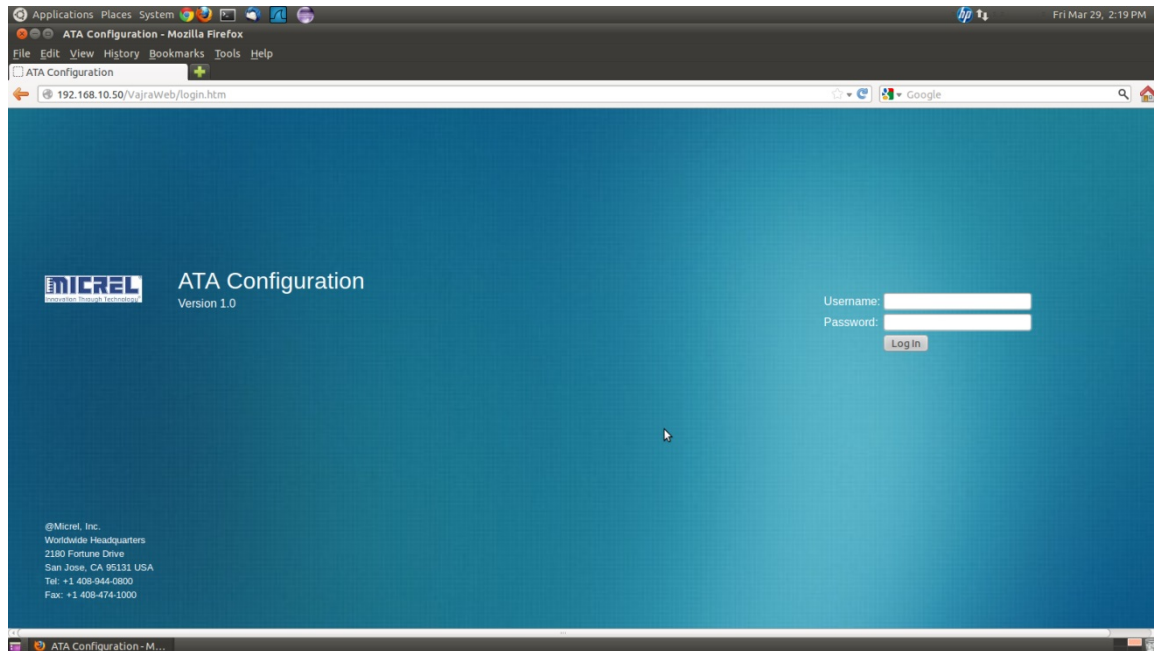

Figure 5: Login Screen
- ii) Type the IP address obtained above in the URL bar; this will open the WebGUI for the ATA-2FXS at its login page (see Figure 5 below)